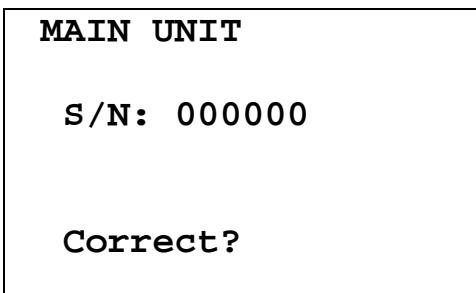

Figure 15-12
- g. Press **2** to select *SERIAL #* to re-enter the Readout Unit's Serial Number. Figure 15-12 will appear.